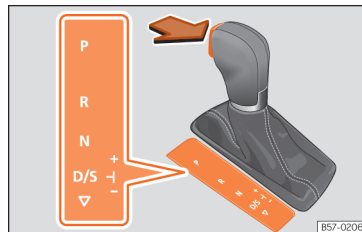

Fig. 220 Selector lever lock.
- Press the brake pedal *and*, at the same time, hold the lock button in the direction of the arrow »» Fig. 220.